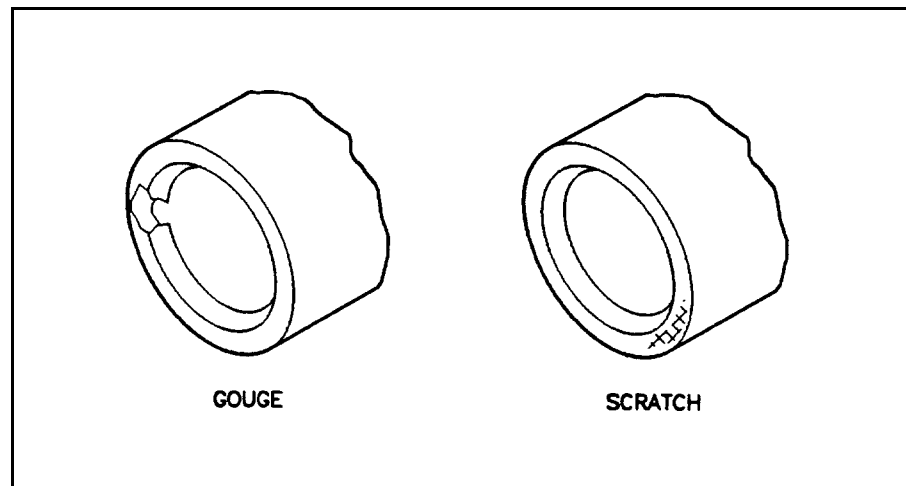

Figure 2-12. Damaged Center Conductor
2. Refer to Figure 2-12. Is the center conductor gouged? Does it have any imperfection that would interfere with the insertion of a new inner contact? If so, you must return the device to Agilent Technologies for repair; you cannot repair a center conductor with this kit.